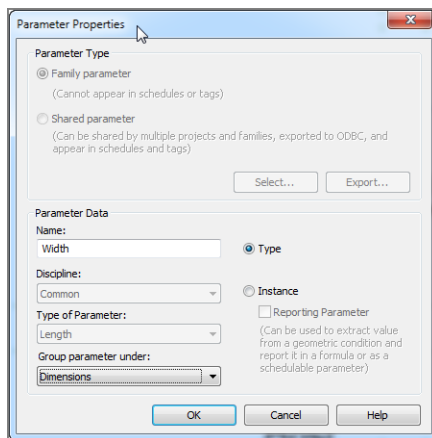

FIGURE 17.7: Configuring the parameter
3. In the Parameter Properties dialog, under Parameter Data (as shown in Figure 17.7), type Width for Name.